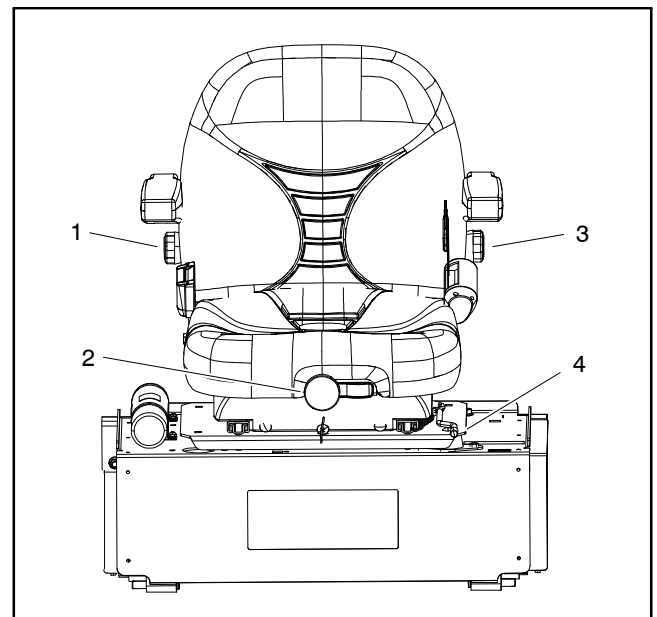

Figure 55
3. Carefully peel label from back rest knob (Fig. 55). Remove nut and knob from seat frame.
4. Remove six (6) clips that secure back cushion to seat frame. Remove back cushion.
5. Remove two (2) cap screws that secure bottom cushion to seat frame. Remove bottom cushion.
7. Remove eighteen (18) clips from seat frame to separate seat boot from frame.
8. Remove two (2) roll pins that secure bearing shafts to seat frame. Remove bearing shafts and split nylon bushings from frame.